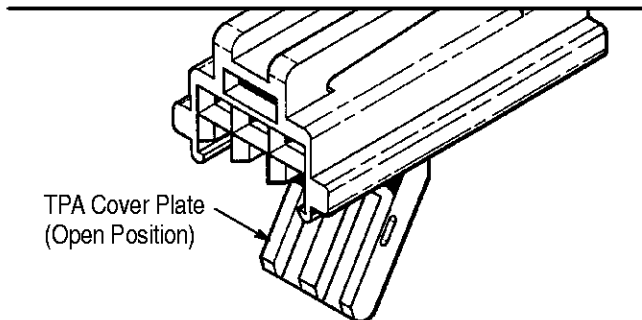

Figure 5
3. Rotate the TPA cover plate into the open position. See Figure 5.